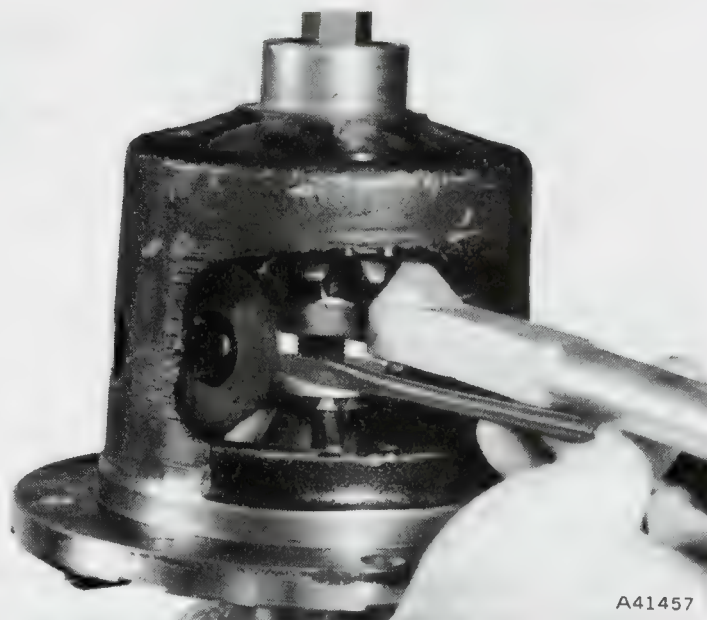

Fig. 2E-41 Conical Washer Installation
(13) Pull rotating tool handle until it hits gear. Remove pawl from gear teeth and reposition handle and pawl. Repeat operation until shaft bores in pinions are aligned with shaft bores in case.
(14) Tighten forcing screw just enough to provide clearance for conical-shape pinion washers.
(15) Lubricate both sides of pinion washers with specified lubricant.
(16) Press washers into place using small screwdriver (fig. 2E-41). Be sure holes in washers and shaft bores in pinions are aligned with shaft bores in case.
(17) Remove forcing screw, rotating tools, and step plate.
(18) Install axle shaft thrust block.
(19) Lubricate pinion shaft with specified lubricant and install shaft. Be sure shaft snap ring grooves are exposed to permit snap ring installation (fig. 2E-42).
(20) Install pinion shaft snap rings.
(21) Remove differential assembly from axle shaft.
(22) Position ring drive gear on differential case.
(23) Align ring gear and case bolt holes and install ring gear bolts finger-tight.
(24) Remount differential assembly on axle shaft.
(25) Tighten ring gear bolts alternately and evenly to 105 foot-pounds (142.3 Nm) torque.